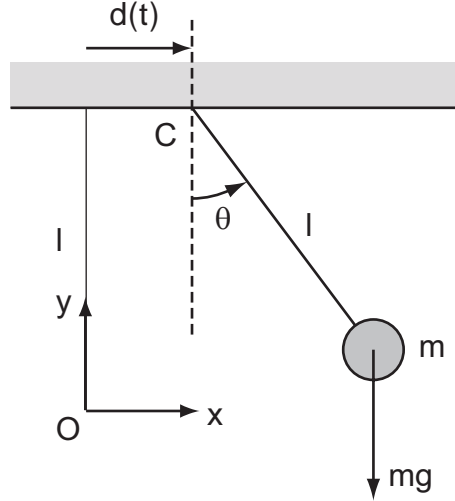

Figure 1: Pendulum attached on moving point
2. Let us investigate the dynamics of a planar 2-DOF link mechanism illustrated in Figure 1. Let l_1 and l_2 be the length of the two links. The position of the gravity center of each link is specified by l_{c1} and l_{c2} , respectively. Let m_1 and m_2 be mass of the two links and I_1 and I_2 be their inertia around the gravity center. Motion equations of the mechanism are then formulated as